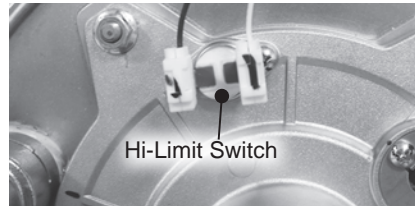

Figure 113 - Burner door hi-limit location
15 Locate the burner door hi-limit on the burner assembly as shown in Figure 113. Disconnect the two (2) wire leads from the hi-limit assembly and route them inside the water heater cabinet for ease of access to burner door.